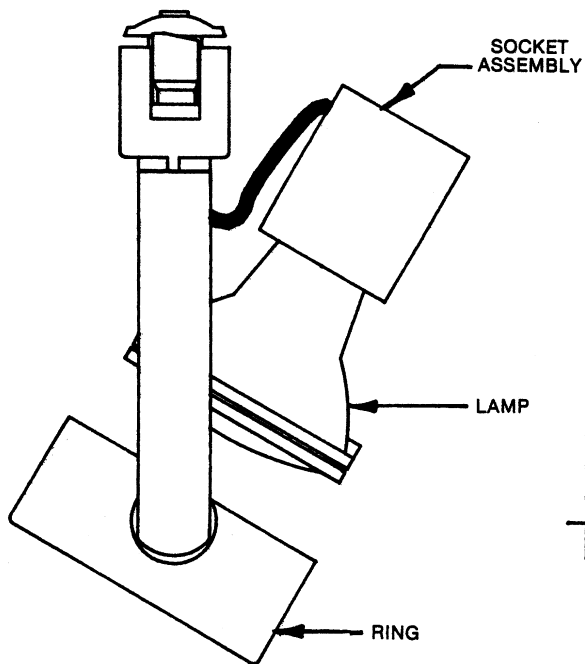

FIG. 5
2. Screw LAMP into SOCKET ASSEMBLY as shown (Fig. 5).